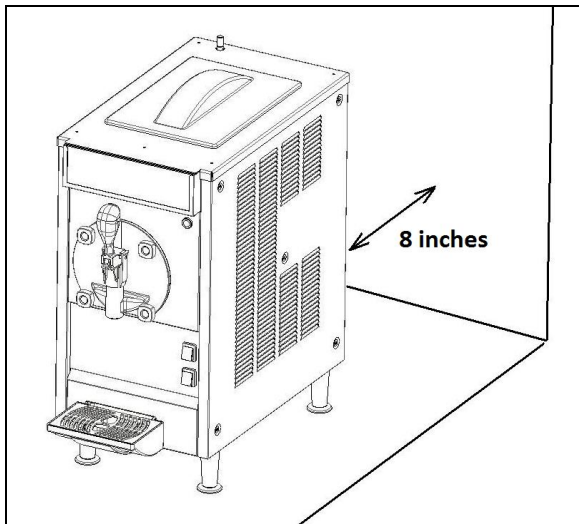

Fig. 2
b) Place the appliance on a solid and flat surface leaving at least 8 inches of free space on all sides to allow for good ventilation (fig.2). Install the appliance in a dry area and avoid installing it near heat sources. **The ambient operating temperature should be between 75 and 97°F.**